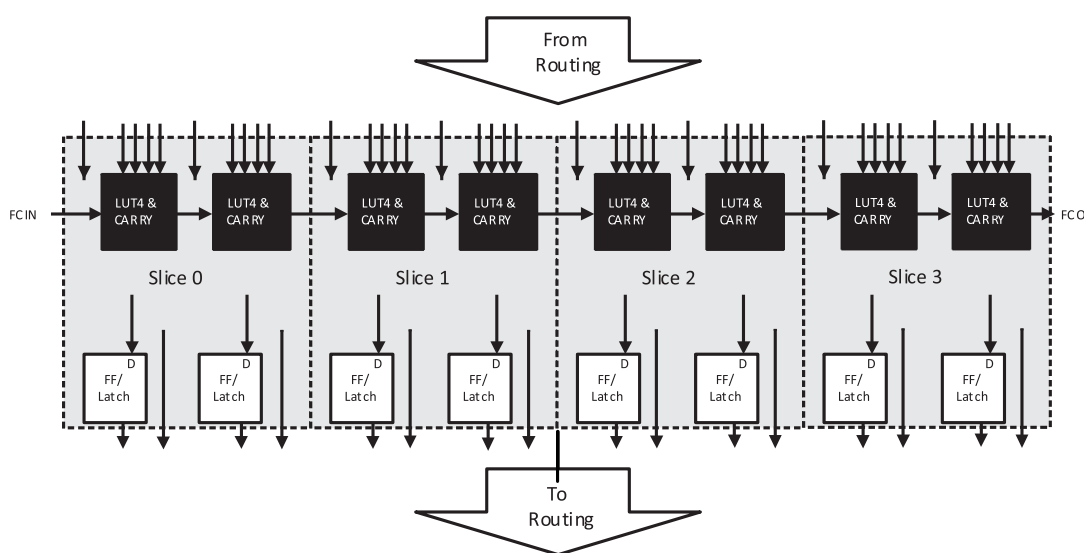

Figure 2.2. PFU Block Diagram
The core of the Mach-NX device consists of PFU blocks, which can be programmed to perform logic, arithmetic, distributed RAM and distributed ROM functions. Each PFU block consists of four interconnected slices numbered 0 to 3 as shown in Figure 2.2. Each slice contains two LUTs and two registers. There are 53 inputs and 25 outputs associated with each PFU block.
1. See Figure 2.2 for connection details.